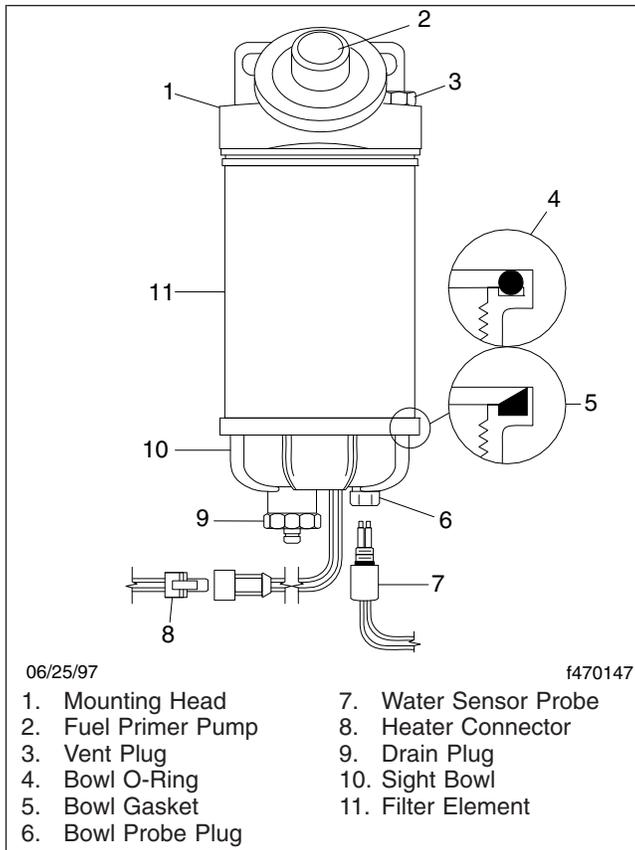

Fig. 1, Alliance Fuel/Water Separator
8. If equipped with a primer pump, loosen the vent plug. Then operate the primer pump until the fuel purges at the vent plug. See Fig. 1.